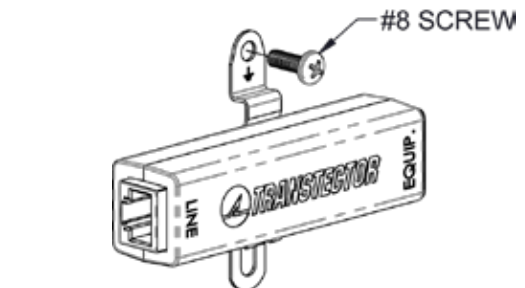

Figure 2.4
2.3. Wall Mounting: Rotate the mounting clip on the DPR protection module to expose the auxiliary mounting hole. Attach the DPR protection module to the desired surface using the auxiliary mounting hole and a #8 screw as shown in Fig 2.4. Please note that the mounting surface must provide a path to ground through the mounting clip.